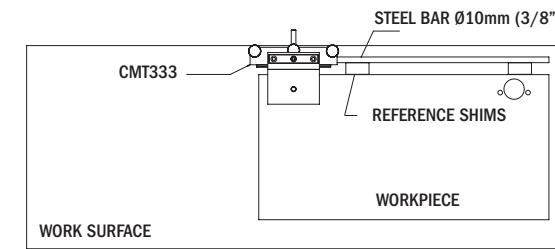

Fig. 4
According to the hinge model, install the relative chuck head (**Fig. 2**) on the multipurpose support (**Fig. 1**) by means of the two rear locking screws (1). Position the drilling system on a work surface suited to the type of machining. Procure a steel bar with a diameter of Ø10mm (3/8") and a length suited to the type of machining to be carried out and fit it in the side hole (2). Adjust the reference stop and lock everything with the two clamp knobs (3) and fix one or more reference shims on the table according to the length of the workpiece to be drilled (**Fig. 4**).
Set drilling distances (**Fig. 3**): From the panel's edge to the hinge (D) by means of the plate and centre clamp knob (4) and the drilling depth (H) with the threaded bar and lock nut (5), then position the workpiece to be drilled (**Fig. 4**). The bits suited to the head chosen are then fitted to the three arbors: on the centre arbor (6) fit and lock the Ø35mm bit for right hand hinges, whereas, on the two side arbors (7), fit left-hand Ø8mm or Ø10mm bits for blind holes. (according to the type of hinge), which are fixed with the two dowels, (**Fig. 2**).